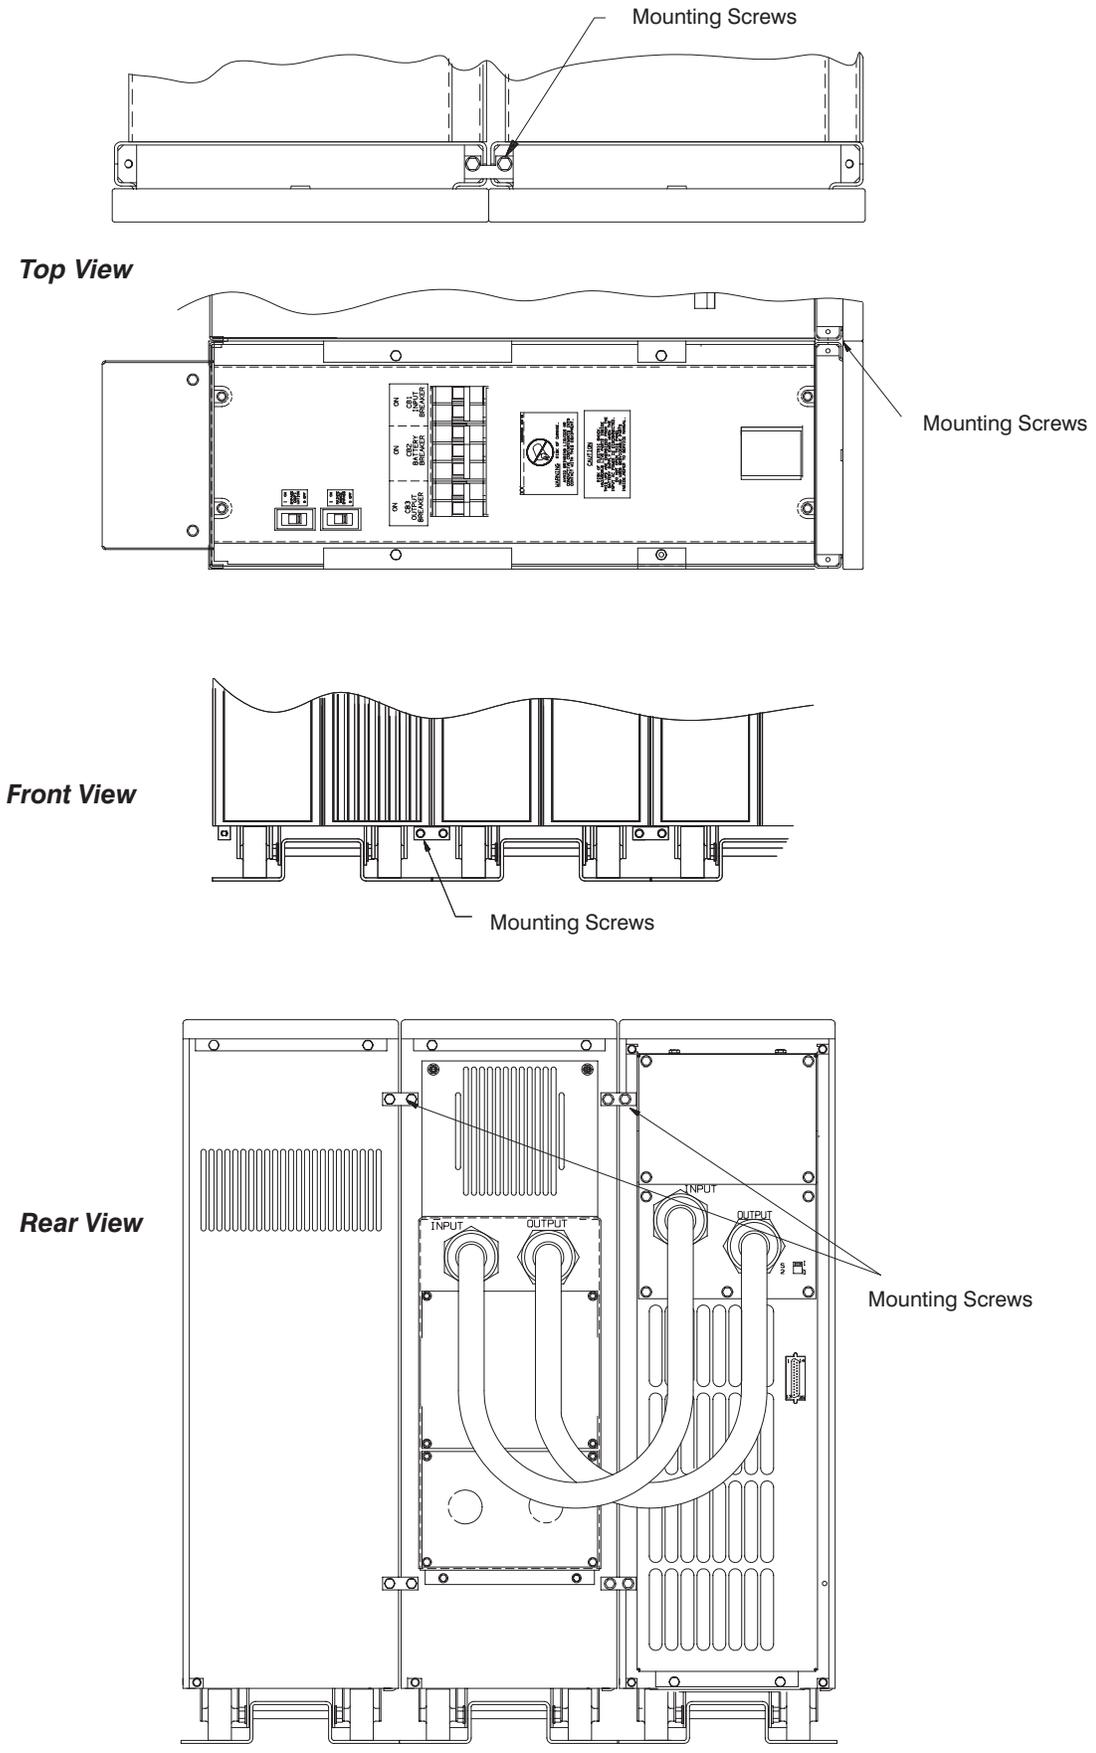

Figure 34. Joining the Cabinets (Front and Rear View)
19. Join the cabinets together in four places as shown in Figure 34.